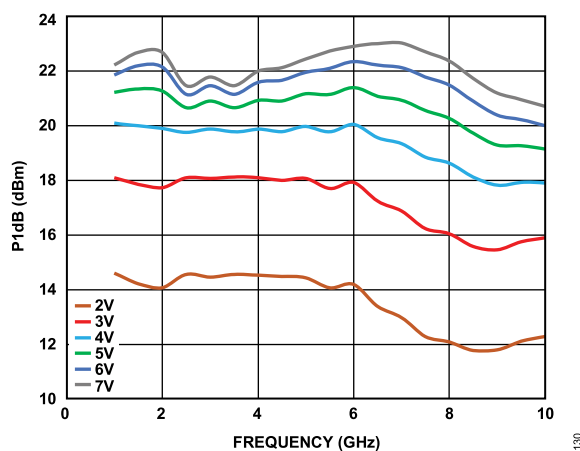
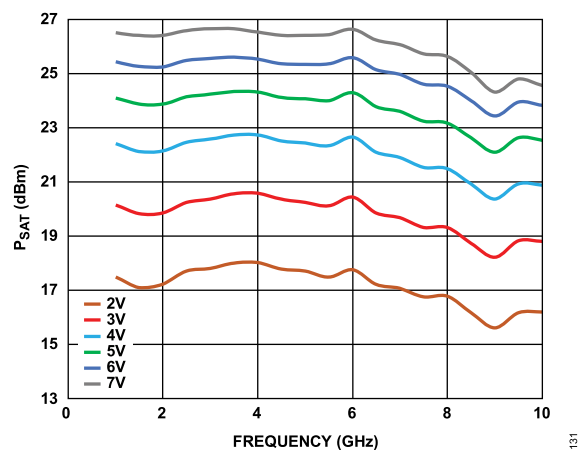

Figure 31. P1dB vs. Frequency for Various Supply Voltages, $I_{DQ} = 65$ mA
Figure 32. P_{SAT} vs. Frequency for Various Supply Voltages, $I_{DQ} = 65$ mA
Figure 19, Figure 31, and Figure 32 show that increasing the voltage from 2 V to 7 V typically increases P1dB and P_{SAT} at the expense of power consumption with minor degradation on noise figure (NF).